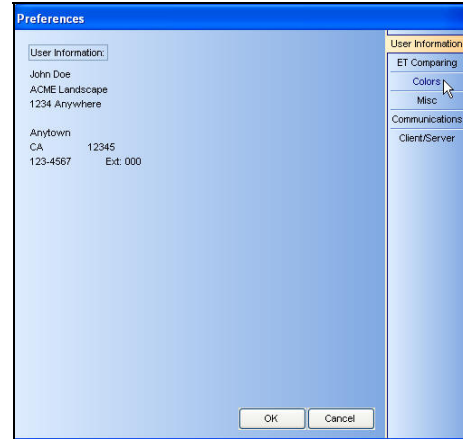

Figure 2.0.5
- Click on the **Colors** tab (Figure 2.0.5).